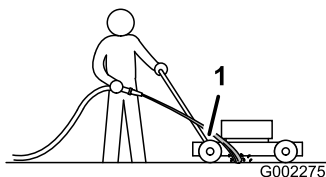

Figure 22
3. Hold the running garden hose at handle level and direct the water to flow on the ground just in front of the right, rear wheel (Figure 22).